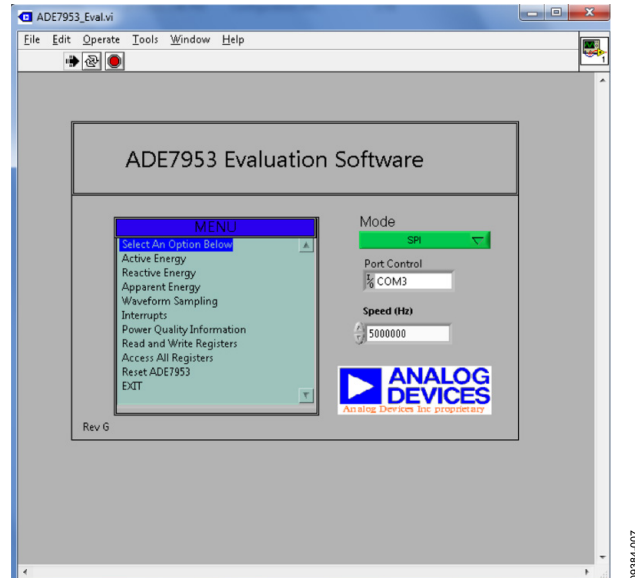
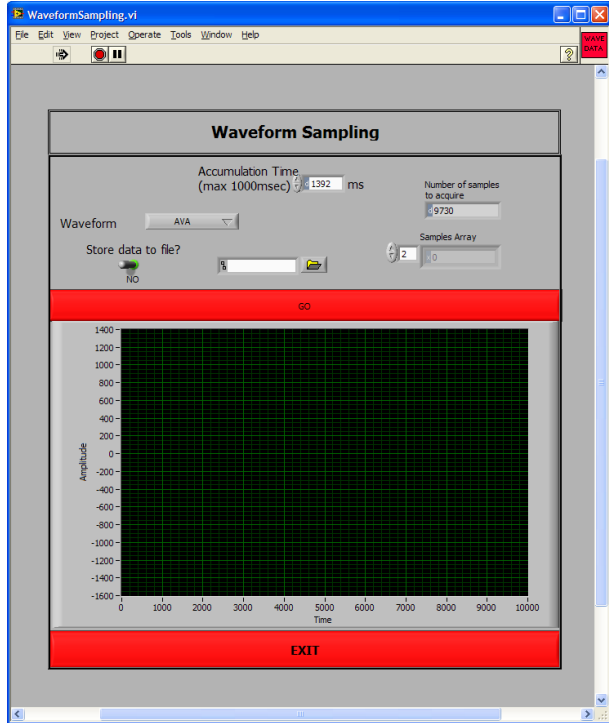

Figure 7. Main Window
Figure 14. Waveform Sampling Window
When the evaluation software is running, it should automatically detect the COM port that the ADE7953 interface board is connected to. If the port detection is successful, the COM port number appears in the **Port Control** field, as shown in Figure 7 (COM3 in this example).
1. Click **Yes** to return to the main window (see Figure 7).
The ADE7953 evaluation software allows access to all registers and features of the ADE7953 using SPI, I²C, or UART communication. The communication mode and speed should be set in the main window (see Figure 7). The menu options available are
These options provide access to all internal registers and allow the evaluation of ADE7953 performance. To access these functions, click the desired option in the MENU box (see Figure 7).
The **Waveform Sampling** window is available from the **MENU** box. The **Waveform Sampling** window is shown in Figure 14. To use the **Waveform Sampling** window, SPI must be selected as the communication interface (see Figure 7).